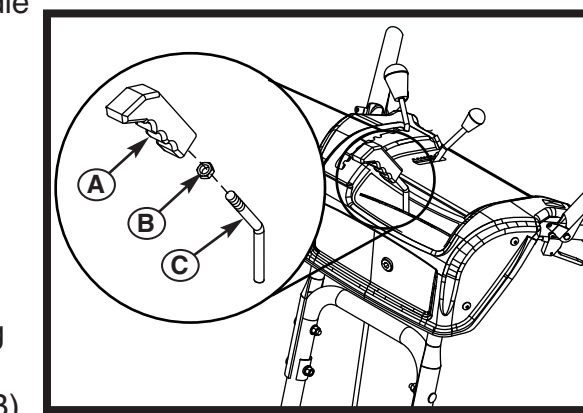

Figure 4
- Install thin jam nut (B, Figure 4) onto chute rotator rod (C). Install chute rotator control handle (A) onto chute rotator rod (C) turning at least 10 full rotations.
- Align chute rotator control handle so it is facing forward and use a 9/16" wrench to tighten jam nut (B) against chute rotator control handle (A).